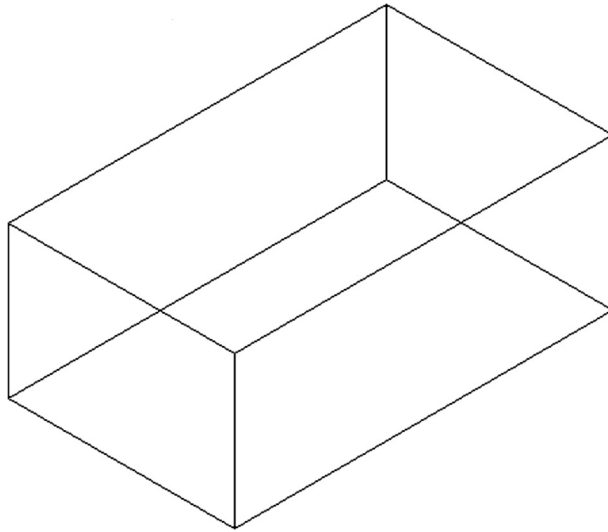

FIGURE 21.20
Step 3. You can move your mouse up and down and create a thickness in real time, but it is more practical to type in a value, so go ahead and type in 4 for the thickness. You should see what is shown in Figure 21.20.